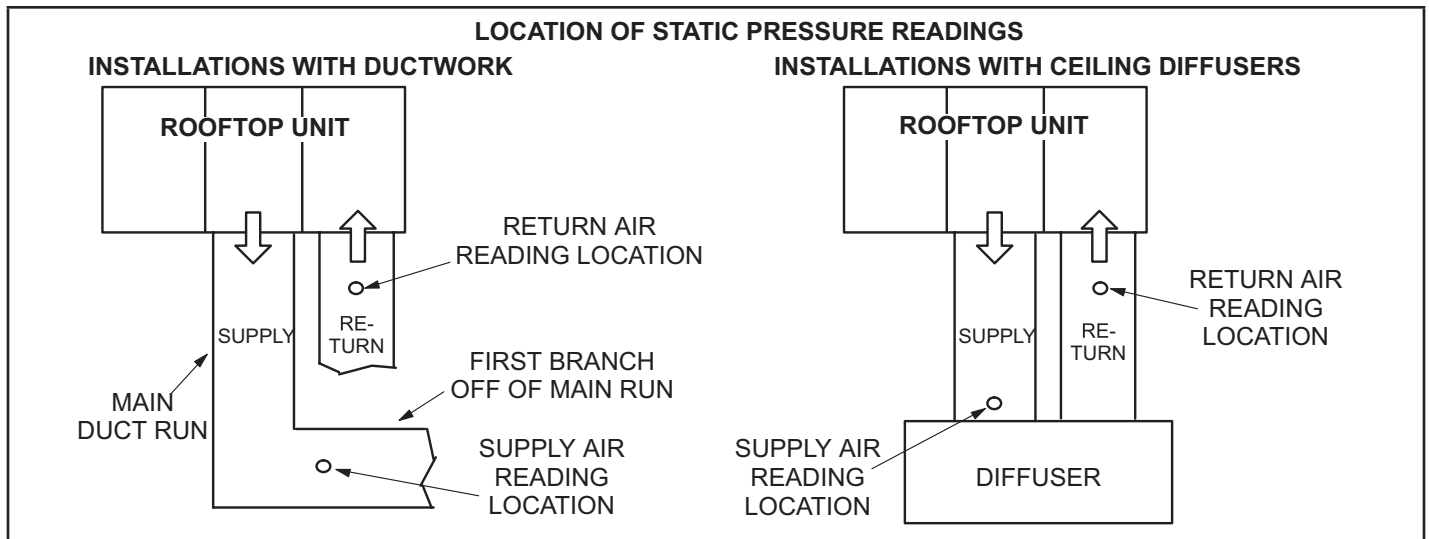

FIGURE 11
- 2 - With all access panels in place, measure static pressure external to unit (from supply to return). Blower performance data is based on static pressure readings taken in locations shown in figure 11.